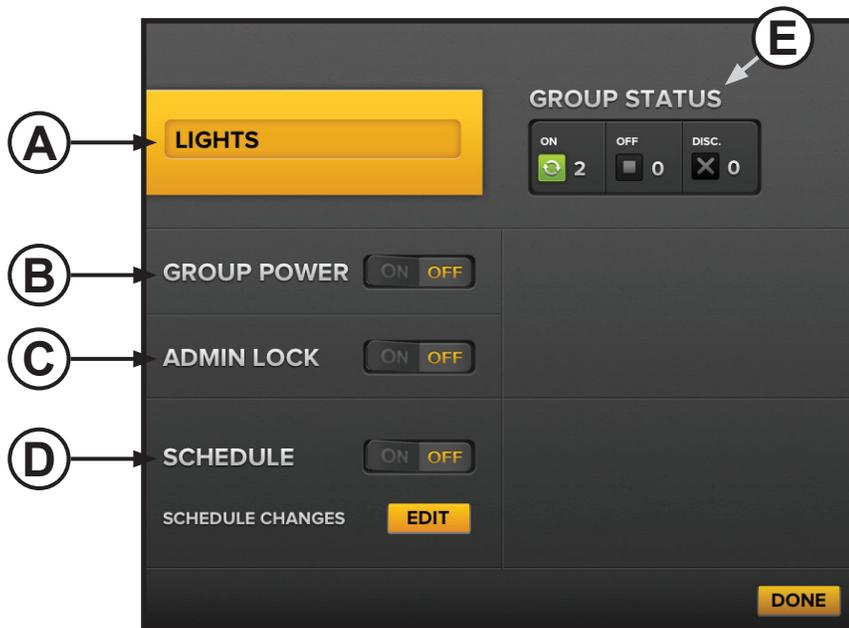

Figure 12—Light group details page
2. Locate the light group you want to work with, and then touch the **Detail Page** button for the group. The group details page appears (Figure 12).
3. Adjust the settings as necessary, and then touch **Done**. See Figure 12 below and the following page for details.